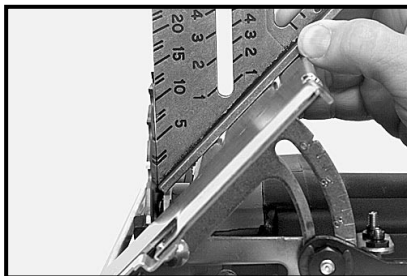

Fig. 8
3. Turn saw upside down, retract telescoping guard and check 45° angle as shown in Fig. 8.